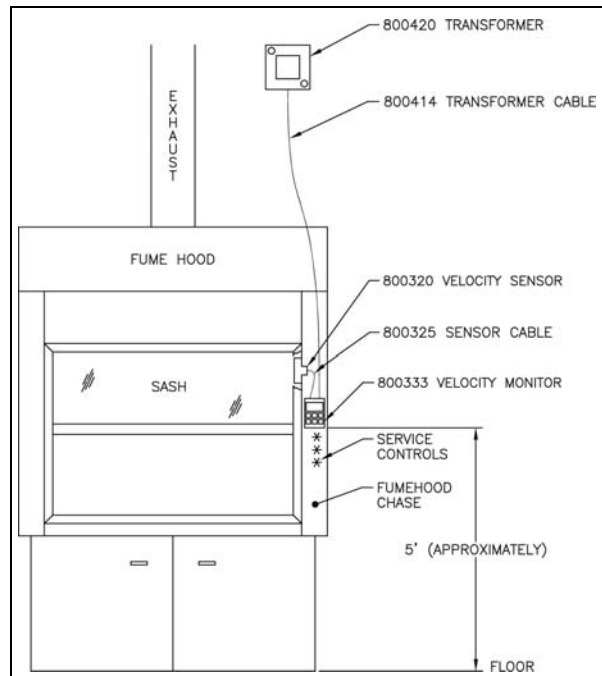

Figure 1: Typical Installation of EVERWATCH® Components
The purpose of these instructions is to guide the installer through the installation of the TSI EVERWATCH® Model 8610 Face Velocity Monitor. Please read these instructions thoroughly before beginning installation. The instructions begin with Figure 1 which shows a typical EVERWATCH® installation, followed by a component list, and then some very important installation notes.
WARNING: The velocity sensor and velocity monitor mount on the same side of the fume hood (Figure 1).
1. Select the mounting location of the VELOCITY MONITOR. The monitor is typically mounted above the service controls (see Figure 1).